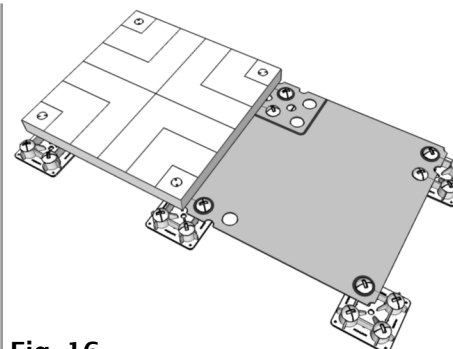
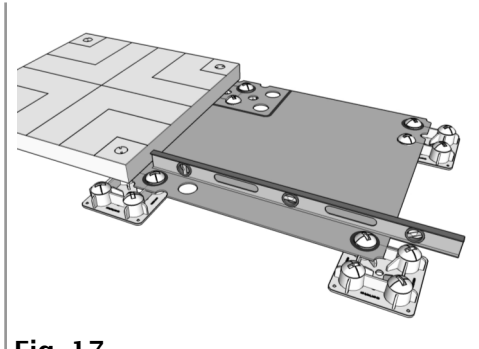

Fig. 16
Fig. 17
Place the next 2 Piers (A) in line with any 2 of the previously installed Piers (A) using the Pier Template (F). (Fig. 16) Level each new Pier (A) and install Anchor Spikes (D). (Fig. 17)